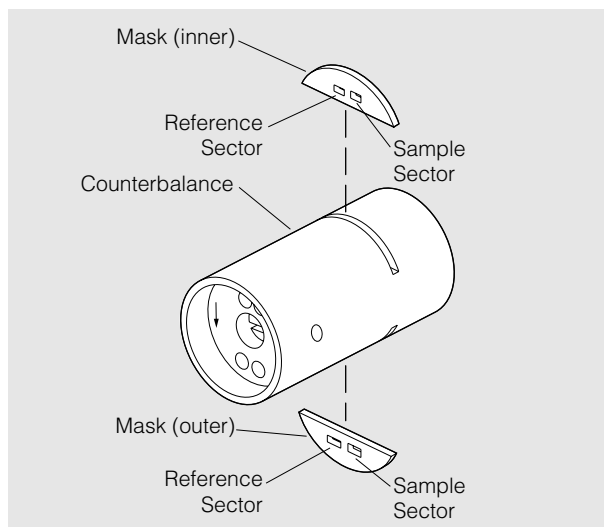

Figure 2-12. Inserting Masks into the Counterbalance
Two removable masks (see Figure 2-12), each containing a sample sector and a smaller reference sector, must be properly installed in the counterbalance to ensure accurate system calibration. The masks are factory-installed. If you remove them, or if they loosen and fall out, reinstall them as described below.
2. Note that one mask is engraved “I” (for inner) and the other is engraved “O” (for outer). Reinstall them as shown in Figure 2-12, making sure that the “I” and the “O” face the bottom of the counterbalance (away from the end with the directional arrow).